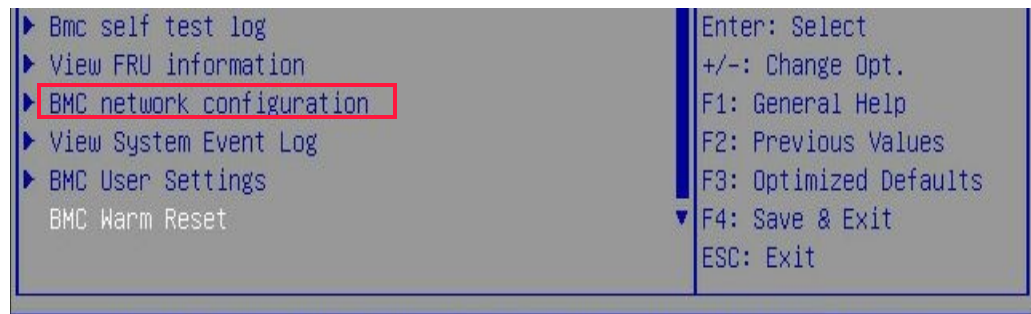

Figure 6.4 Server Mgmt tab
8. Press the right arrow key to navigate to the **Server Mgmt** tab, which displays as shown in Figure 6.4 that follows.